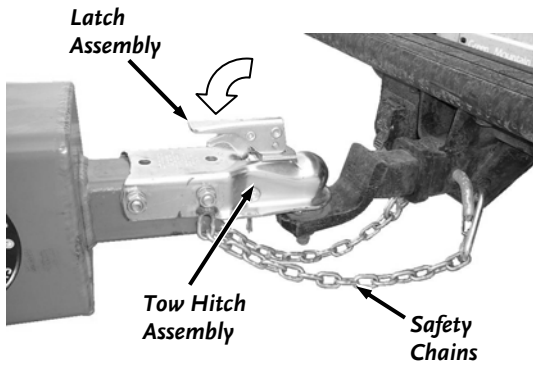

Figure 31
4. Close the Latch Assembly on the Tow Hitch Assembly to lock the Tow Hitch Assembly onto the Tow Ball (**Figure 31**). Attach the towing Safety Chains to the tow vehicle ensuring there is enough slack for turning.